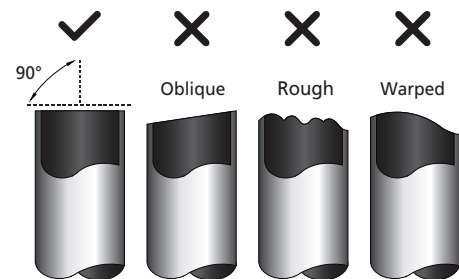

Fig. 7.1
1. Make sure that the pipe is cut at a perfect 90° angle. Refer to Fig. 7.1 for examples of bad cuts